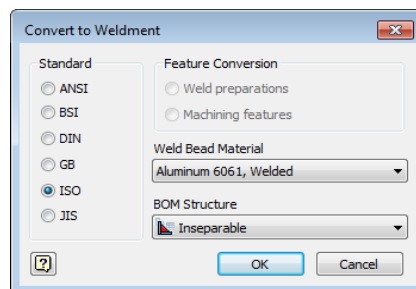

Figure 16-28 The Convert to Weldment dialog box
2. Choose **Yes** in the warning box; the **Convert to Weldment** dialog box is displayed, as shown in Figure 16-28.